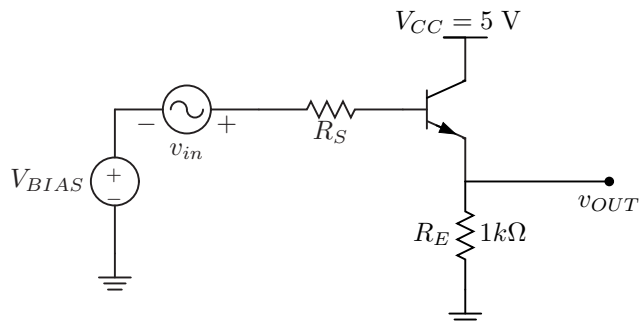

Figure 4: Common collector amplifier test setup
1. The common collector amplifier is a wide bandwidth amplifier. Let's examine the frequency response of this amplifier by building the common collector amplifier as shown in Figure 4. Configure the NI Bode Analyzer with an input signal of amplitude 1 V and DC offset of 1 V (which is 2 V effective DC offset) for v_{in} and V_{BIAS} .